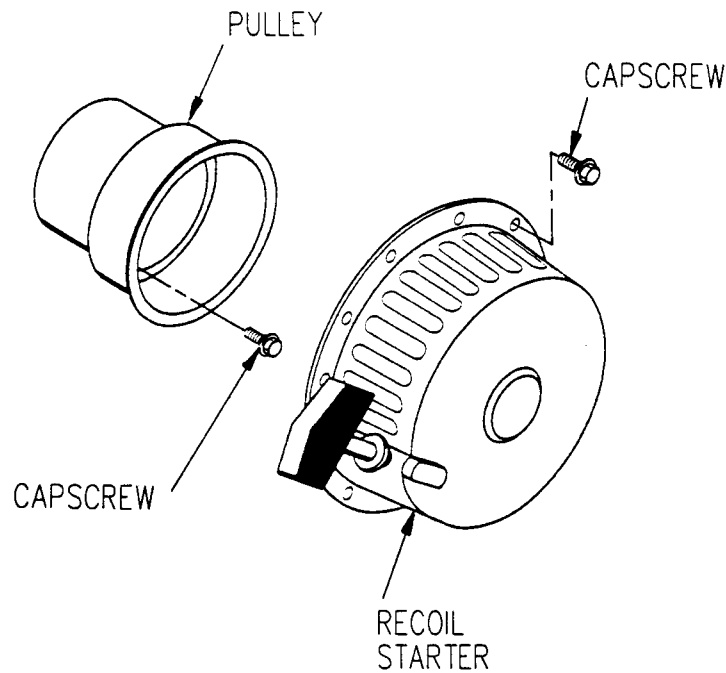

Figure 4-56. Recoil Starter Assembly
- (1) Shut down generator set.
- (2) Note position of recoil starter assembly (Figure 4-56) to engine.
- (3) Remove capscrews and recoil starter assembly from engine.
- (4) If necessary, remove capscrews and pulley from engine flywheel.
- (1) If removed, install pulley (Figure 4-56) on engine flywheel with capscrews.
- (2) Position recoil starter assembly on engine as noted when removed.
- (3) Install capscrews and check recoil starter assembly for proper operation.